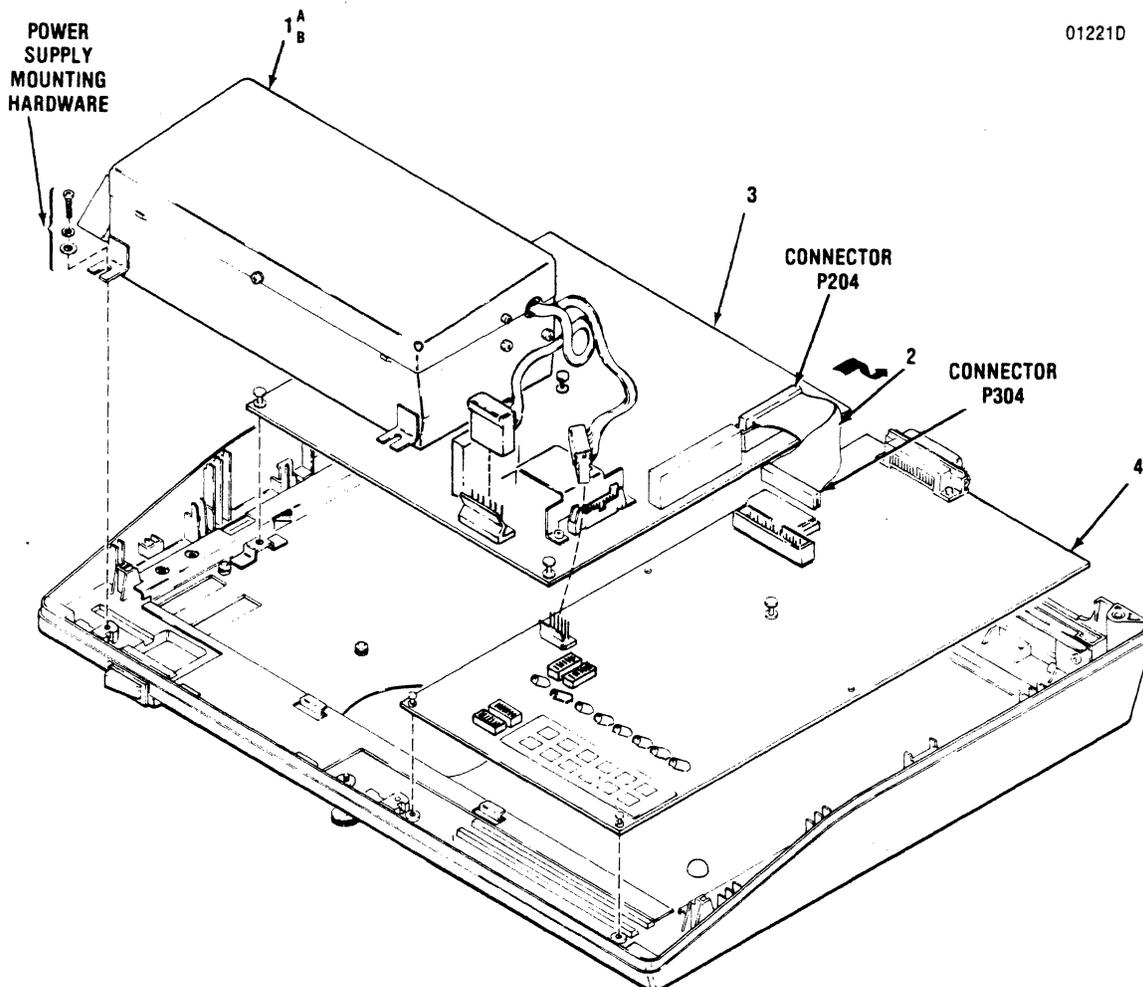

Figure 3-25 Removal/Replacement, Power Supply Assembly, CPU/Controller Cable, Print Controller PCB and CPU Board PCB
The power supply assembly, item 1A or 1B of Figure 3-25, is mounted to the printer base and is removed using a Phillips screwdriver. To remove the power supply, refer to Figure 3-25 and perform the following steps:
The CPU/Controller cable, item 2 of Figure 3-25, connects the Print Controller pcb and CPU Board pcb. To remove the cable, refer to Figure 3-25 and perform the following steps:
The Print Controller pcb, item 3 of Figure 3-25, is mounted to the printer base by quick release fasteners. No tools are required to remove the pcb. To remove the Print Controller pcb, refer to Figure 3-25 and perform the following steps:
The CPU Board pcb, item 4 of Figure 3-25, is mounted to the printer base by quick release fasteners. No tools are required to remove the pcb. To remove the CPU Board, refer to Figure 3-25 and perform the following steps:
6. Pull the CPU Board (4) forward and lift up and out of the printer.